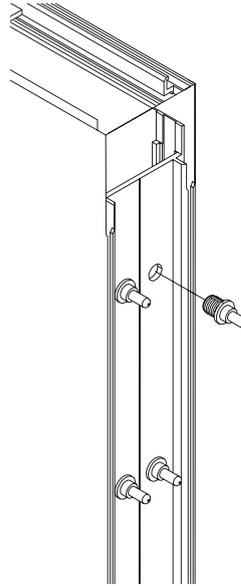

Fig. 103 Spacer
15. Insert the spacer into the profile (Fig. 103)